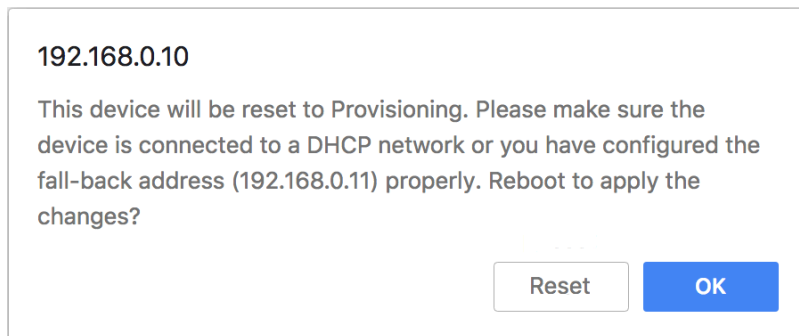

Figure 19. Unit reboot dialog (typical)
- The web browser will show the unit reboot dialog (Figure 19 \(page 65\)).